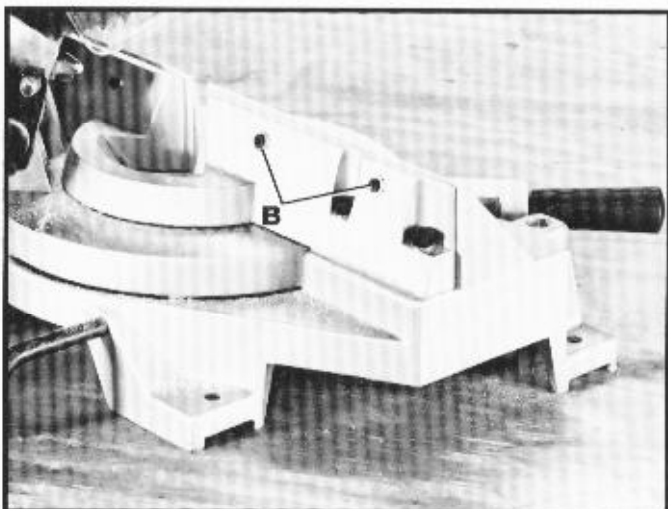

Fig. 46
4. The filler blocks are fastened to the fence using screws (B) through the two holes provided on each fence half, as shown in Fig. 46. This enables you to easily remove the filler blocks when not in use and quickly reassemble them to the fence when needed.